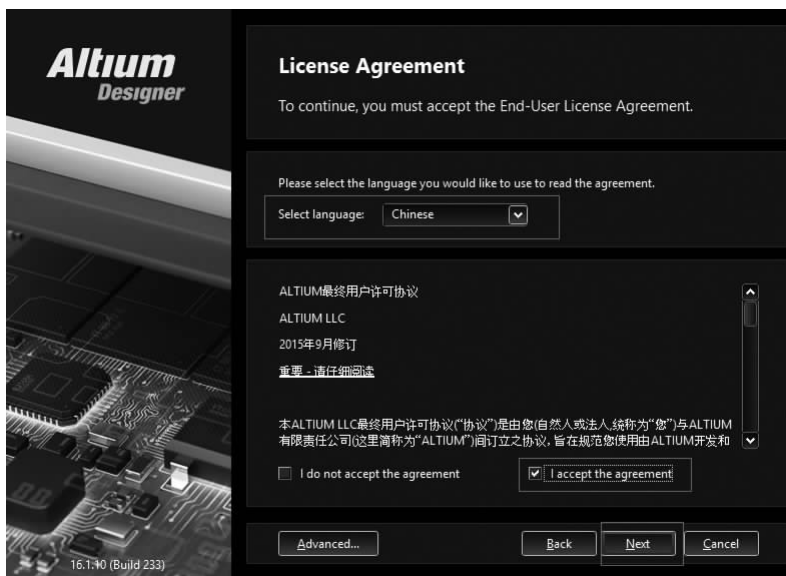

图 1-3 选择安装 Altium Designer 16 的阅读协议语言
(3)在图 1-3 所示对话框中,在“Please select the language you would like to use to read the agreement”(选择用于阅读协议的语言)处,选择“Chinese”;选中“ I accept the agreement”(我接受协议)复选框,单击“Next”按钮。